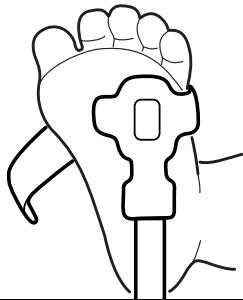

Fig. 4a
2. Refer to **Fig. 4a**. Direct the sensor cable so that it either points away from the patient or runs along the bottom of the foot. Apply the detector onto the fleshy part of the sole of the foot aligned with the fourth toe. Alternatively, the detector may also be applied to the top of the foot.